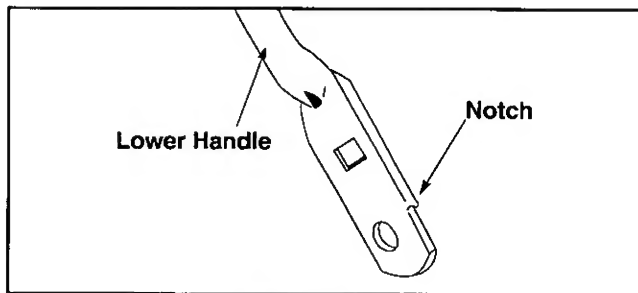

Figure 14
- Turn lower handle around so the notch on the bottom of the lower handle is facing forward. Reassemble, placing the bottom holes in the handle over the weld pins in the handle mounting bracket. See Figure 14.